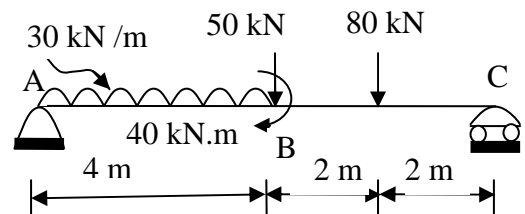

Fig.2 Q.3 (b)
- (b)** For the beam shown in fig.2, calculate shear force and bending moments at salient points and draw shear force and bending moment diagrams. **08**